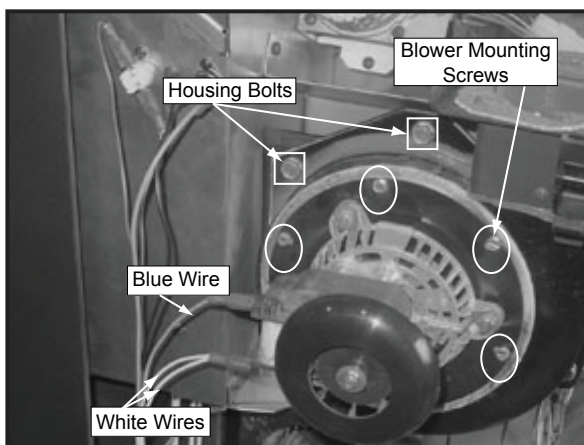

Figure 17.2
- Remove blower mounting screws (not housing bolts), **Figure 17.2**, from blower housing and remove blower. The replacement blower is shipped with a housing. If you do not need the housing, discard it. If you do need to replace the housing you will also need to replace the gasket. See Service Parts starting on **page 24** for the part number.